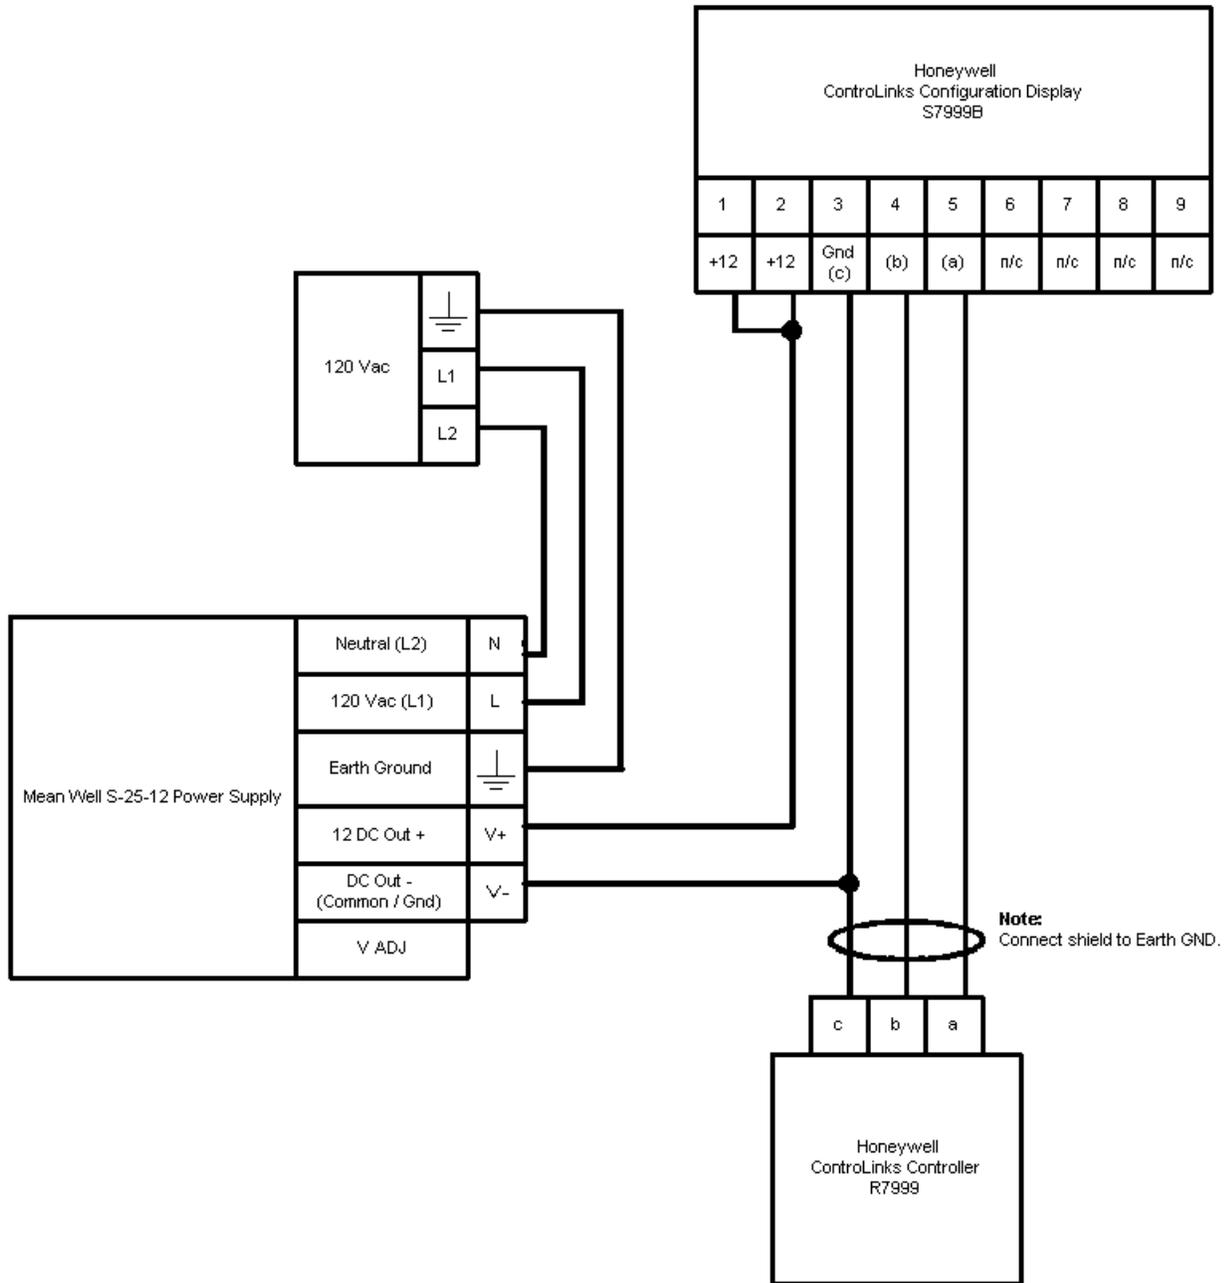

Fig. 3. Honeywell ControlLinks™ Control simplified wiring diagram.
12. Wire the connector to the power supply and the RS-485 cable using the wiring diagram in Fig. 3.
Use the following ControlLinks™ Control instructions to install the system hardware: See Fig. 3 for wiring block diagram.